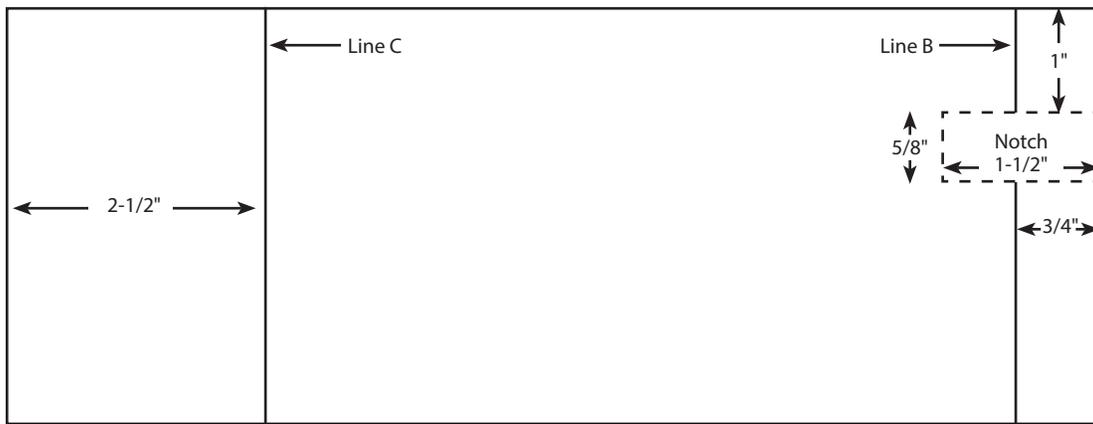

Figure 2
2. Turn over the balsa sheet. Draw Line B 3/4" from one end of the sheet (Figure 2).
3. At the same end, draw a 5/8" x 1-1/2" notch 1" from the top of the sheet (Figure 2).
4. Draw Line C 2-1/2" from the other end of the same sheet of balsa wood (Figure 2).